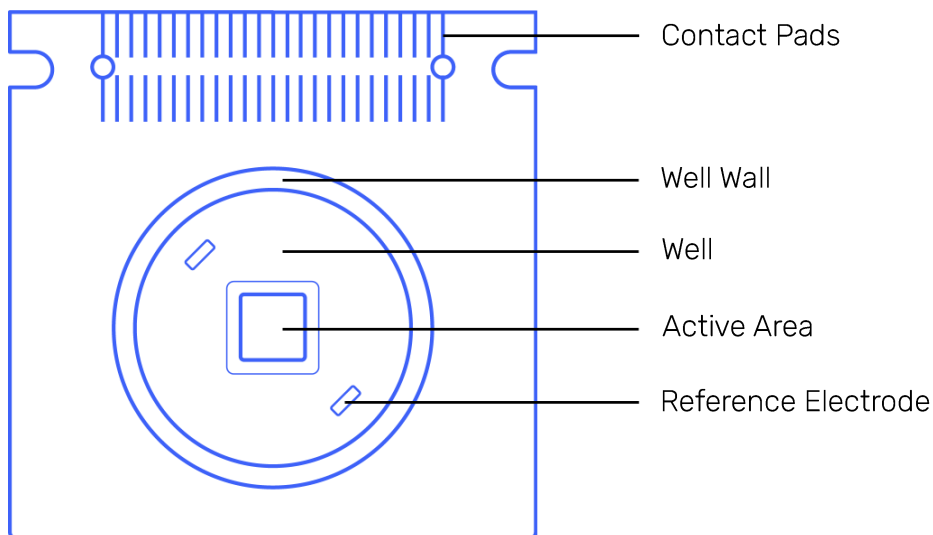

Figure 1: Diagram of CorePlate™ 1W displaying the Contact Pads, Well and Active Area.
- Do not touch the contact pads on the front of the chip (see Fig. 1). Always handle CorePlate™ 1W by using plastic gloves.
- Do not touch the Active Area (see Fig. 1) of the microchip integrated in the CorePlate™ 1W with any tools except those specifically allowed (see section “Cleaning Procedure for CorePlate™ 1W”). In particular, hard or semi-hard objects (e.g. metal or plastic tools) can irreparably damage the electrodes and the on-chip circuits.
- Before inserting CorePlate™ 1W into the BioCAM Duplex, clean the contact pads on the front of CorePlate™ 1W (see Fig. 1) with a lint-free wipe soaked in isopropanol (IPA)>99.5% and let it dry for a few seconds.
If the chip of CorePlate™ 1W remains dirty after the standard cleaning procedure, you may have to repeat this procedure, including gently brushing the surface of the Active Area (see Fig. 1) with a soft, clean paintbrush during the Detergent Application step. Be aware that this operation can damage the Active Area of the chip and is advised only as a final option if the standard cleaning procedure fails to fully clean the chip. Ensure that the paintbrush is completely clean to avoid introducing more debris into the environment, and ensure that brushing is performed very gently and with utmost care to minimize the risk of damage to the electrodes.
1. **Rinse Wells with 70% EtOH.** Rinse the well of CorePlate™ 1W (Fig. 1) thoroughly with 70% EtOH and delicately flush the liquid on the Active Area with a Pasteur pipette.
6. **Soak Well in PBS & Clean Reference Electrodes.** After rinsing with PBS, fill the well with PBS. Carefully remove any air bubbles trapped in the Reference Electrodes (Fig. 1) and leave to soak for 1-2 minutes.